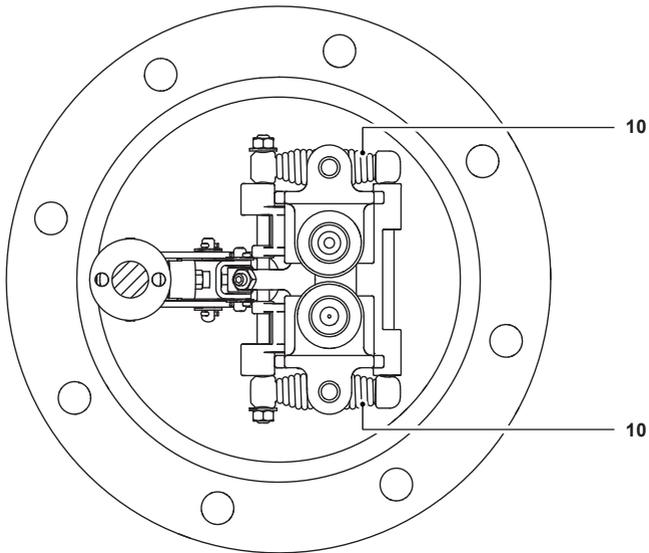

Fig. 13
3. Visually check springs (item 10, Fig. 13). If defective, remove nuts and washers and slide spring assemblies from shafts. Replace with new spring assemblies (see Step 5e -spring setting) and install new nuts and washers, using Loctite 620 adhesive on threads of shaft.